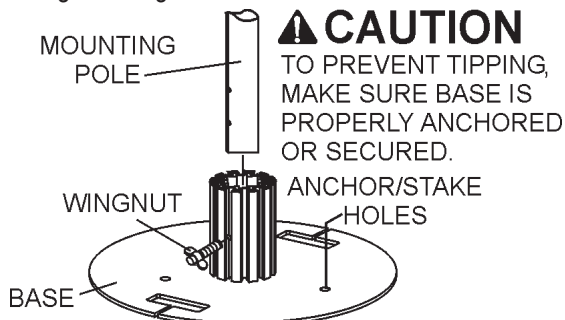

Figure 2. Mounting Pole Base
2. Assemble the Mounting Pole Model MBP (purchased separately) before assembling the MB1000. Insert the pole (Figure 2) into the base and secure by tightening the wing nut on the base.